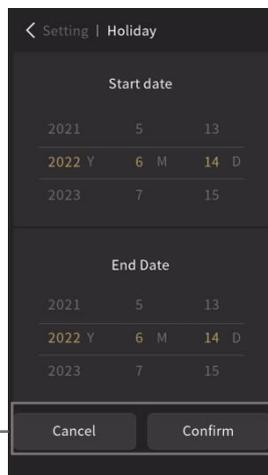
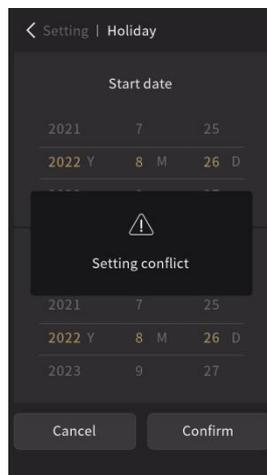
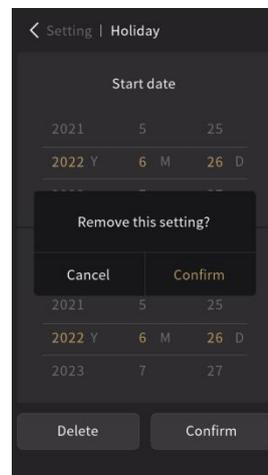

Fig.2.11.14
Fig.2.11.15
Fig.2.11.16
②③ **Add holidays by touching the icon;**
②④ **Enter the holiday time setting by touching the icon ;**
Touch icon ②④, enter the interface as shown in Fig.2.11.14, set the period of holiday, here set up after the start time and end time of the holiday, click “Confirm” to finish the setting. If the holiday time is repeated when setting, then will pop up a window as shown in Fig.2.11.15; touch the area outside the window to return to the setting page.
②⑤ **Drop down the list of holiday time by touching the icon;**
②⑥ **This icon is to confirm and delete setting.**
If it is to be modified or deleted the setting time, touch this time period to the right of the icon ②⑤, then re-enter Fig.2.11.14 interface, in this period of time to modify or delete, click “Delete” as shown in Fig.2.11.16 pop-up window. In the pop-up window, click “Cancel” to return to the setting page, and click “Confirm” to delete it. If no modification or deletion is needed, the icon in the upper left corner of the touch interface returns to the holiday interface.